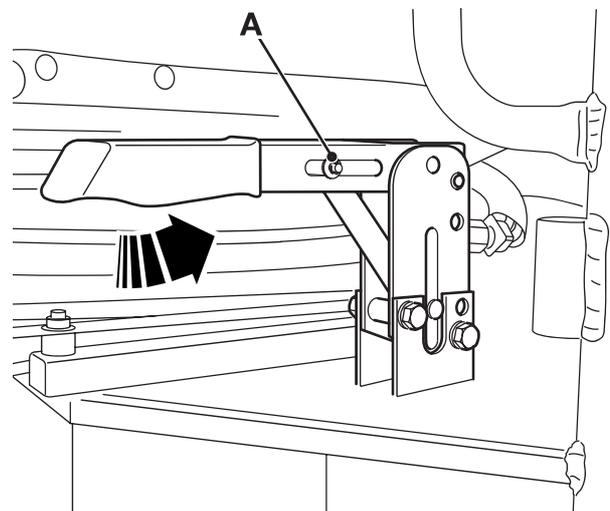

Fig 25. Early Type Park Brake Lever
- a Early type park brake lever. ⇒ Fig 25. \(□ G-25\).